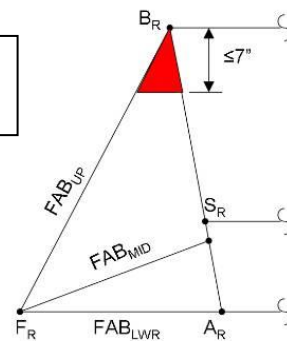

Figure 2
(B) External Switch – The external switch must be mounted on the driver’s right side of the vehicle, on a panel generally perpendicular to the firewall between RRH and Rear Bracing within the red area, (Fig 2) and behind the plane of the RRH. The switch cannot be more than 178 mm (7 in) vertically below point. B_R. The switch must be within easy reach of track workers. The switch must be mounted rigidly, with no sharp edges nearby.